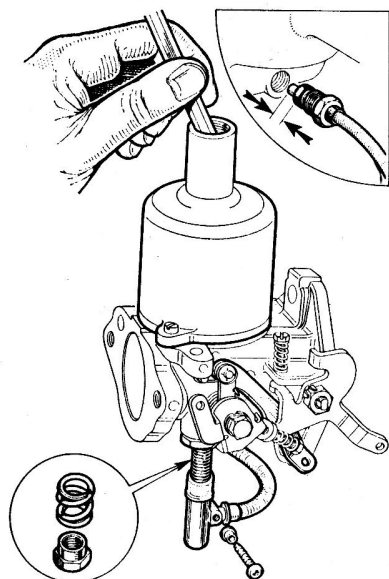

Fig.3.26. Centring the jet HS6 carburettor
- 4 Refer to Fig.3.26. Withdraw the jet, disconnecting the fuel feed pipe union in the float chamber and removing the rubber sealing washer.
- 12 Refit the jet locking spring when centralisation is correct. Before replacing the fuel feed pipe line into the float chamber fit the rubber sealing washer over the end of the plastic pipe so that at least 3/16" (4.8 mm) of pipe protrudes (see inset, Fig.3.26).